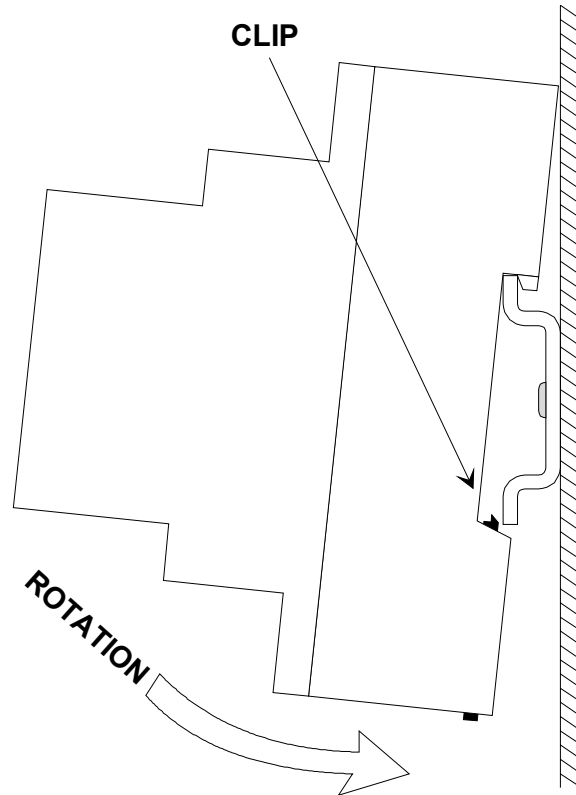

Figure 23. Mounting onto the DIN Rail
2. Push until it clips onto the rail. (See Figure 23).